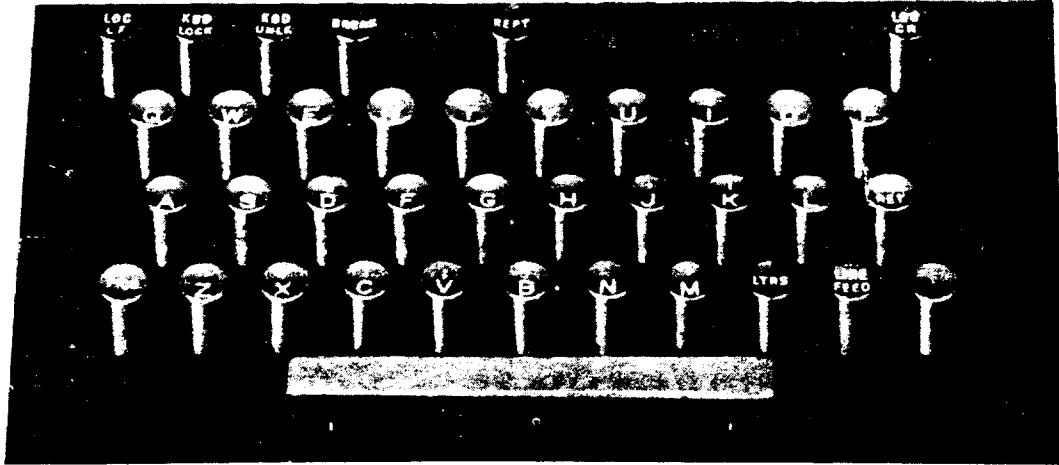

Fig. 4 - Keyboard Keys
- 4.05 Keyboard Lock Mechanism: Operation of the keyboard lock key (red), either manually or as the result of a "break" signal, prevents the operation of the keyboard. The operation of the keyboard unlock key (red) will again allow operation from the keyboard. See Fig. 4.